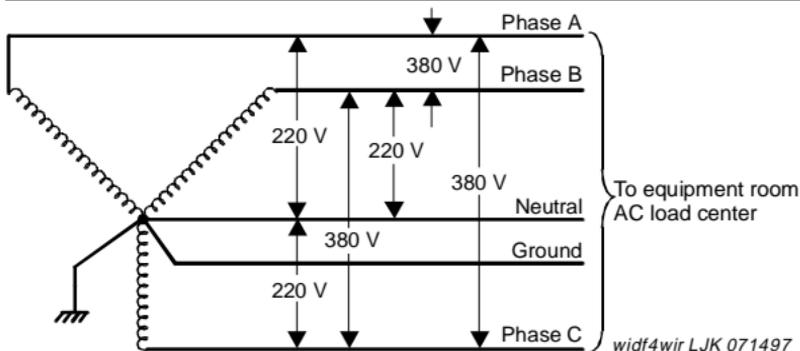

Figure 20. International 4-Wire, 220/380 VAC, 50-Hz Source
- International 4-wire, Y, 220/380 VAC. See Figure 20. This source has 3 hot wires, 1 neutral wire, and 1 ground wire.